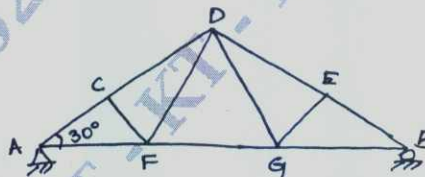

Fig.Q4
- 4 Design a Roof truss, for the forces given in the table. Design the Anchor bolt for an uplift force of 15 kN and bearing plate for reaction of 50 kN. Design all the critical components of truss. [Refer Fig.Q4]